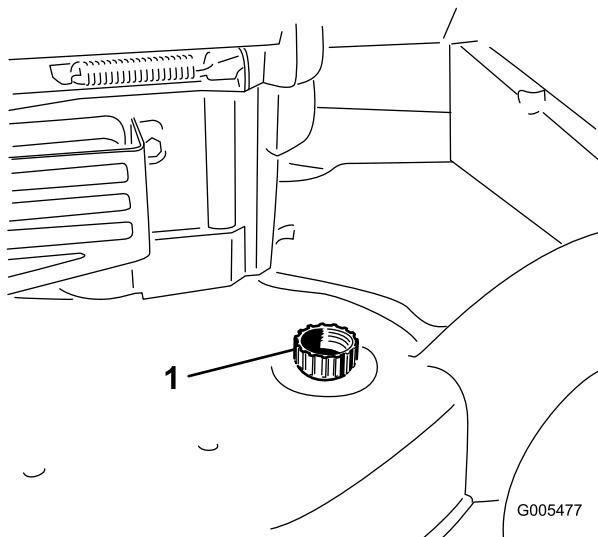

Figure 33
3. Attach a garden hose that is connected to a water supply to the washout port on the mower housing (Figure 33).